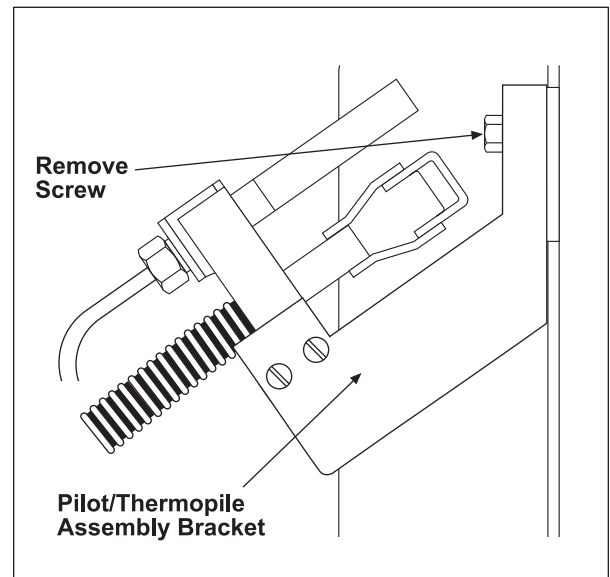

Figure 19
9. Remove the screw securing the Pilot/Thermopile Bracket Assembly (Figure 19).